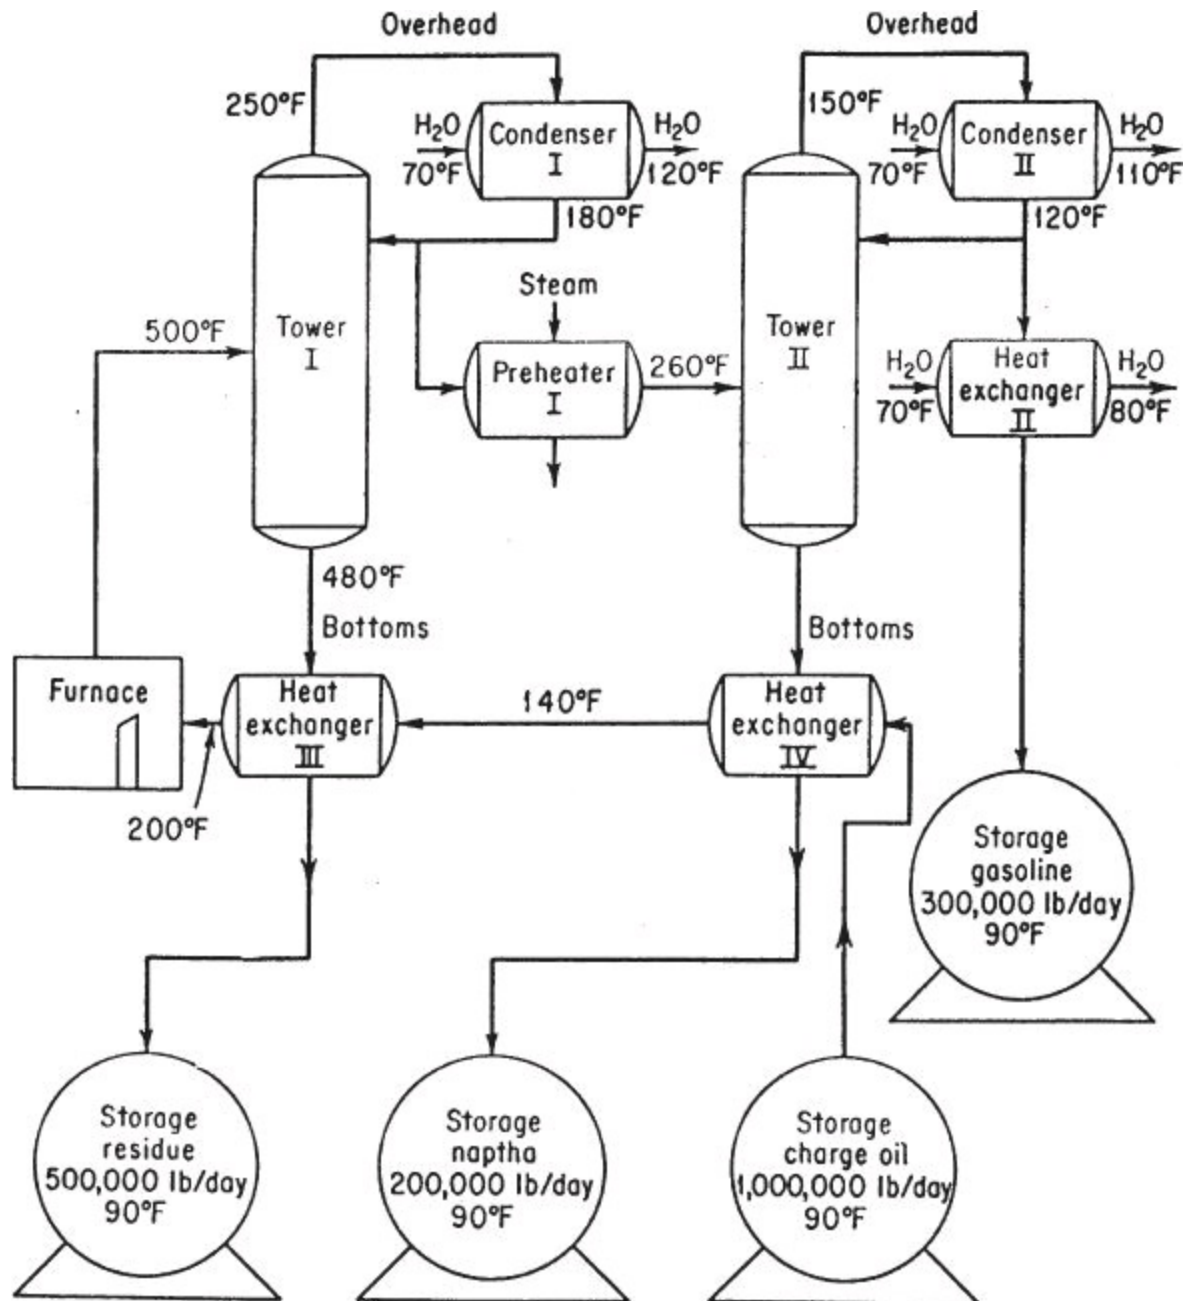

Figure P9.3.49
****9.3.49. The initial process in most refineries is a simple distillation in which the crude oil is separated into various fractions. The flowsheet for one such process is illustrated in Figure P9.3.49. Make a complete material and energy balance around the entire distillation system and for each unit, including the heat exchangers and condensers. Also: